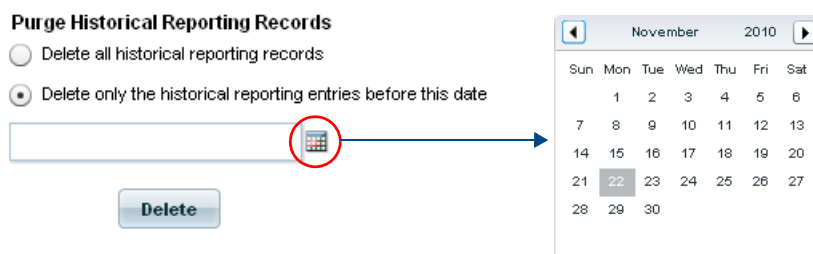

FIG. 381 System Report Maintenance Calendar
- **Delete only historical reporting entries before this date:** Select this option to delete all system report entries before the date selected in the calendar when the *Delete* button is clicked. When this option is selected, the calendar is activated (FIG. 381).